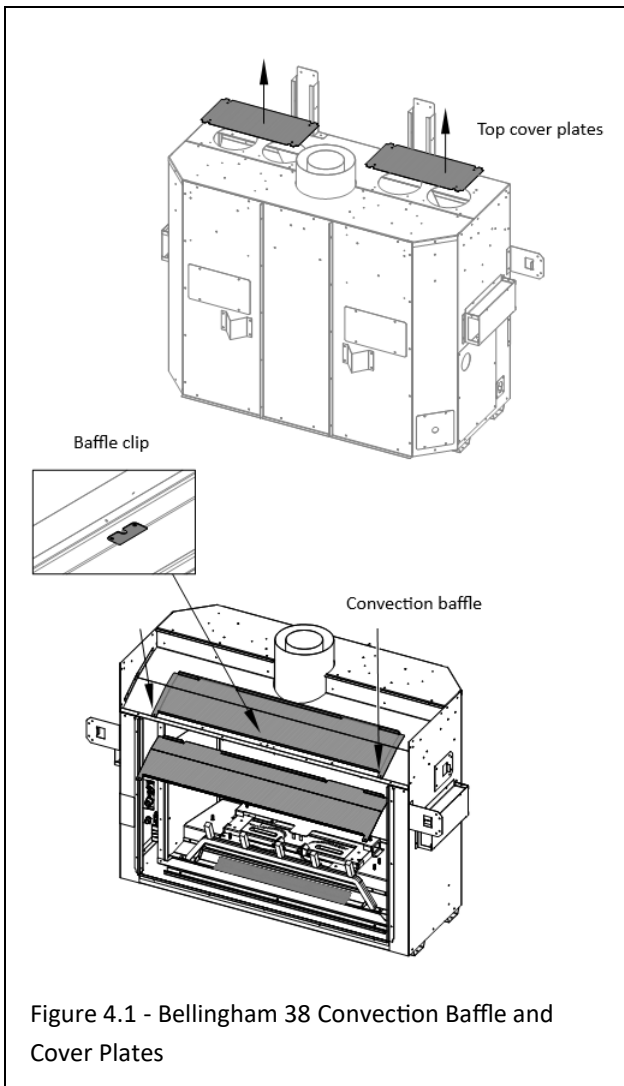

Figure 4.1 - Bellingham 38 Convection Baffle and Cover Plates
1. Remove the convection baffle from the appliance. The baffle is secured by (4) screws right behind the upper edge of the fireplace opening. There is a small baffle clip in the center where you remove (2) screws and then the remaining (2) screws will involve (1) screw being on each side of the convection baffle. Recycle this panel as it is no longer needed. See Figure 4.1.
2. Remove (4) cover plates on top of the appliance (4 screws each).